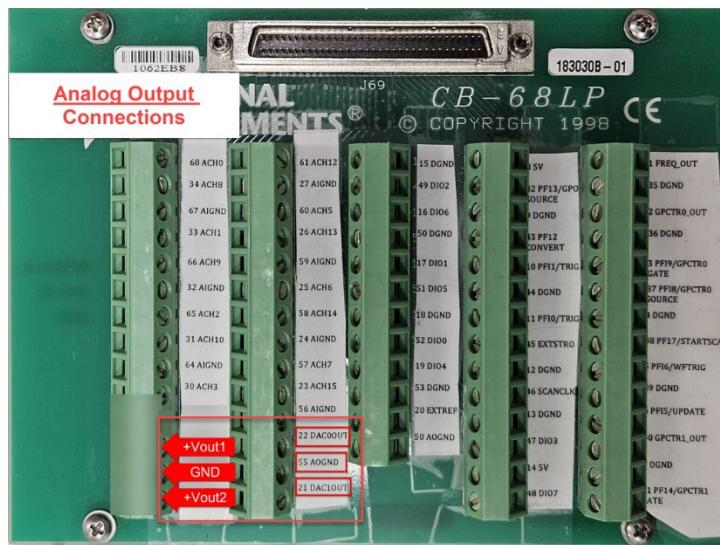

Figure 12 – Analog Output Connections
14. Select the number of output channels. Refer to the connections shown in Figure 12 to determine the number of output channels you will use.
- Note: The arrows in Figure 12 are not pointing to the ports to the left but are instead pointing to the labels referencing the use of the ports they are coming out from. For this lab, only one output channel should be used.